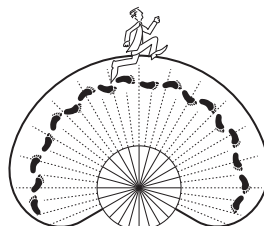

Figure 8
3. Walk through the coverage area noting where you are when the lights turn on. Also, the red LED behind the motion sensor lens will flash several times when motion is detected (see Figure 8).